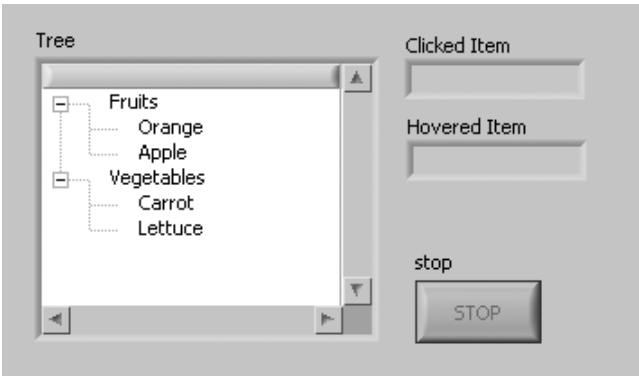

Figure 13.138
1. Build a front panel with a tree control, as shown in Figure 13.138.